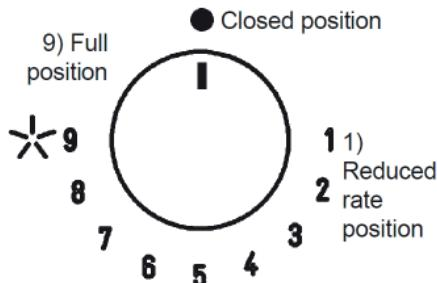

Fig.21
Push and turn the knob corresponding to the required burner in an anticlockwise direction until it reaches the full  $\star$  on position of full (position 9 fig. 21), then depress the knob, the tap is equipped with a scale of 9 positions, with each click the flame is reduced until you reach the position of 1, ie the minimum supply of gas.
The knobs of burners equipped with flame failure device must be turned in an anticlockwise direction until they reach the full on position (Position 9, fig. 21) and come to a stop. Now depress the knob in question and repeat the previously indicated operations.
- When the pan comes to the boil, set the knob to the reduced rate position (Position 1, fig. 21).
- **burners with flame failure device may only be ignited when the relative knob has been set to the full on position (Position 9, fig. 21).**